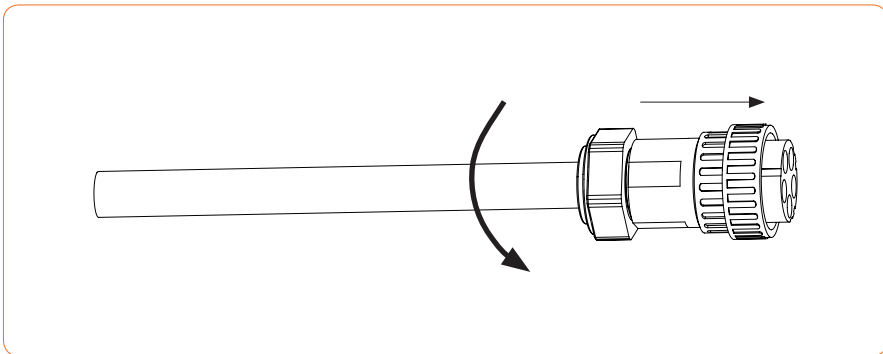

Figure 4-23
④ According to the arrow direction push the threaded sleeve to make it connected with the AC terminal head and then rotate the cable gland clockwise to lock it, as shown in figure 4-23: